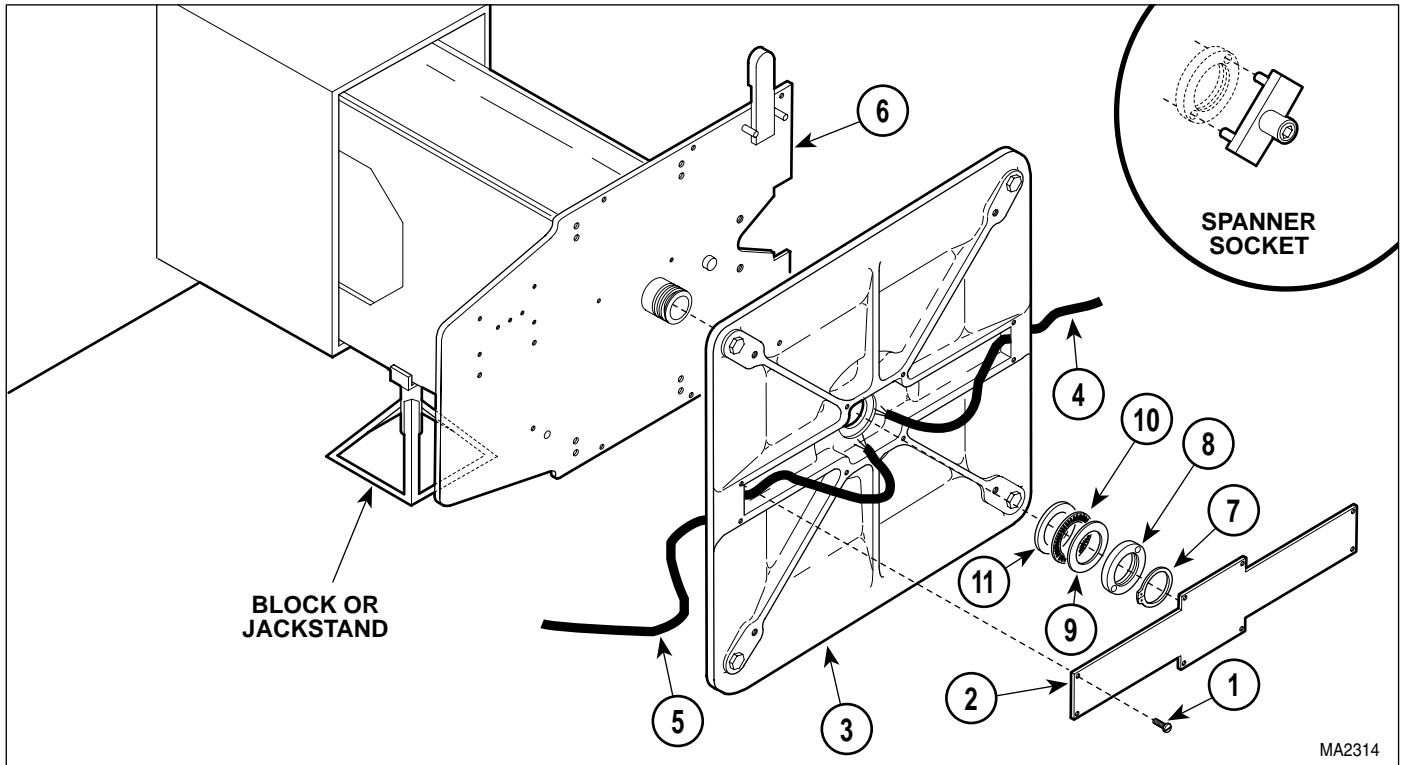

Figure 4-39. Rotational Base Removal / Installation
- (14) With help of an assistant, lay table onto its left (patients left) side and block base of table off of floor by putting a block/jackstand under base slide assembly. See Figure 4-39.
- (15) Remove eight screws (1, Figure 4-39) and cable cover (2) from rotational base (3).
- (16) Pull wire harnesses (4 and 5) out thru bottom of platform base weldment (6).
- (17) Remove retaining ring (7) from platform base weldment (6).
- (5) Install table rotation bearing (2) and rotation stop plate (3) on rotational base (4), making sure stop plate post (6) goes thru rotation stop plate to hold rotation stop plate in position.
- (6) Coat threads of two screws (1) with removeable threadlocking adhesive (Loctite 242).
- (7) Secure table rotation bearing (2) with two screws (1).
- (8) Coat mating surfaces of thick bearing washer (11, Figure 4-39), thrust bearing (10) and thin bearing washer (9) with high temperature grease.
- (9) Coat threads of rotation nut (8) with removeable threadlocking adhesive (Loctite 242).